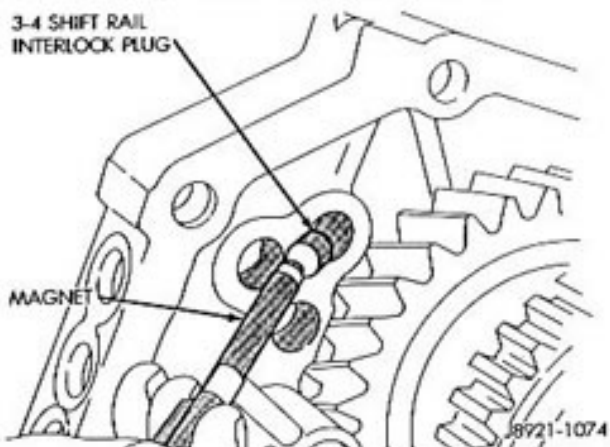

Fig. 45 Removing 3-4 Shift Rail Interlock Plug
(5) Remove the 3-4 shift rail interlock plug from the intermediate plate with a magnet (Fig. 45).